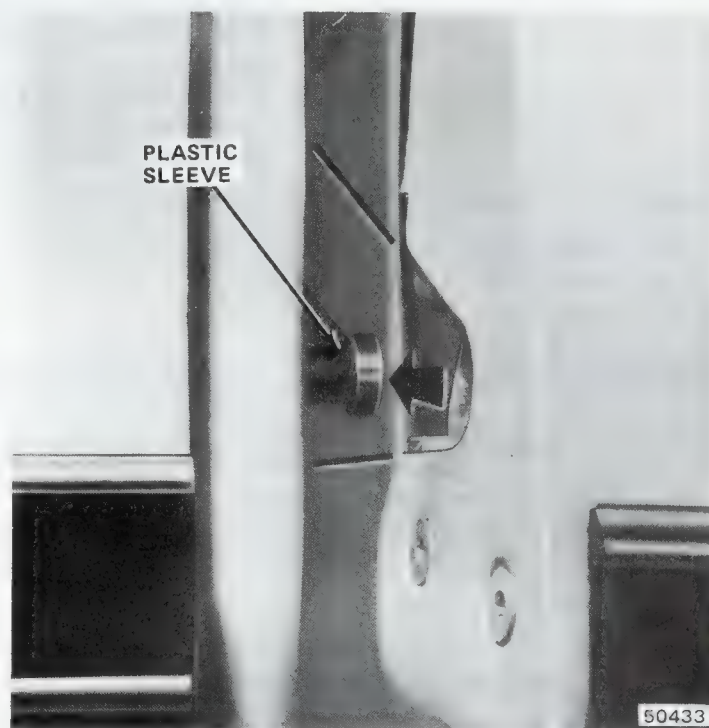

Fig. 3J-61 Lock Striker Alignment
- (1) Remove door trim panel.
- (2) Remove water dam paper.
- (3) Raise window to closed position.
- (4) Disconnect outside handle-to-door latch link at handle (fig. 3J-57).
- (5) Remove attaching nuts from handle assembly and remove assembly.
- (6) To install, position handle assembly and secure with attaching nuts. Tighten nuts to 40 inch-pounds (4.5 Nm) torque.
- (7) Connect handle-to-door latch link to handle.
- (8) Install water dam paper.
- (9) Install door trim panel.
- (1) Determine proper striker alignment (fig. 3J-61).